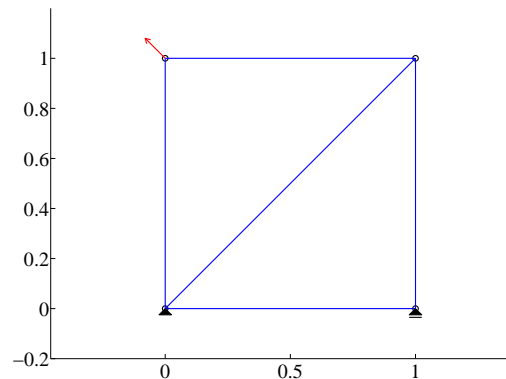

Figure 4: Truss Exercise 2
- Figure 4: The structure is pinned at the left support and roller at the right support, and has a load of $(-1, 1)$ at the top left node.